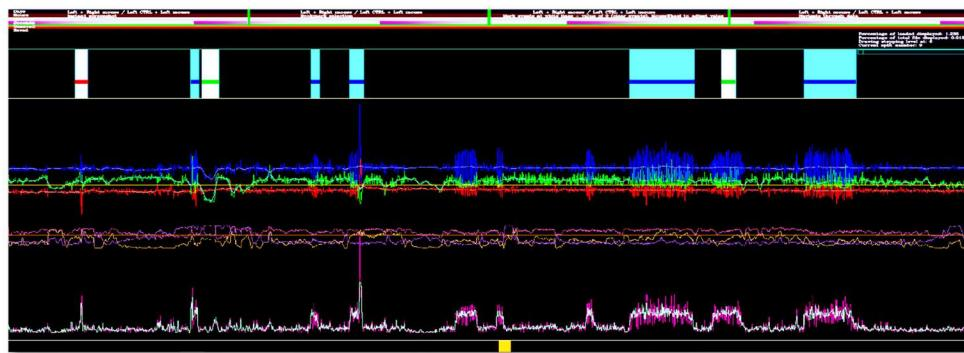

Figure 6.8 Bookmarks with marked events, adjusted visual heights and custom colours by category
Behaviour ethogram files only work when the format matches that shown in Figure 6.8 i.e. DD/MM/YYYY and HH:MM:SS, as DDMT looks to specific cell positions for the information it requires to create bookmarks. The cells shown in grey in Figure 6.8 should be copied exactly in the new file, in terms of both cell content and position. The **Red / Green / Blue** value columns (C-E) can be any value from 0-255 to allow custom colours for each category. The **type** column (A) allows category labels to be named, which are applied adopted by the category name lists in DDMT.